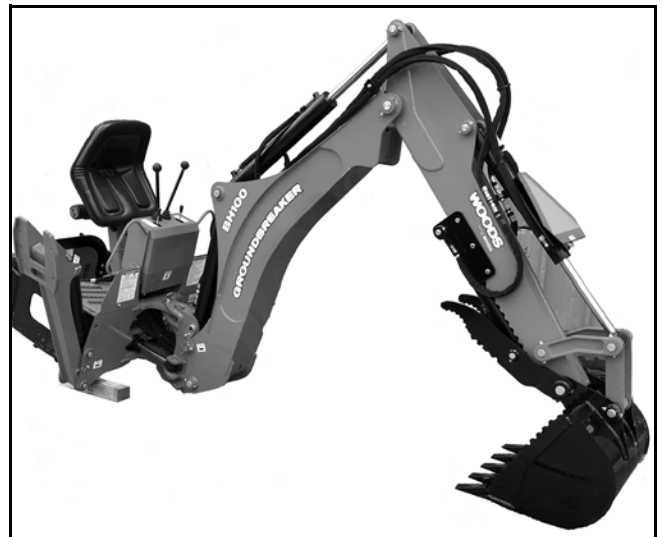

Figure 16. Storage Position
4. Lower boom and dipper to form 90-degree angle and rest bucket on the ground. See Figure 16.
14. Place 6 inch blocks under backhoe mainframe and raise stabilizers to lower backhoe to the storage position on blocks. Boom and dipper should be at 90-degree angle. Install stabilizer and boom lock pins (Figure 16)